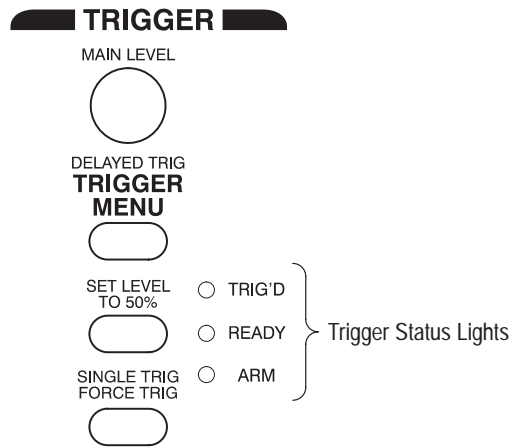

Figure 3-14: TRIGGER Controls and Status Lights
**Triggering From the Front Panel** The trigger buttons and knob let you quickly adjust the trigger level or force a trigger (see Figure 3-14). You use the following trigger controls for all trigger types, except where noted.